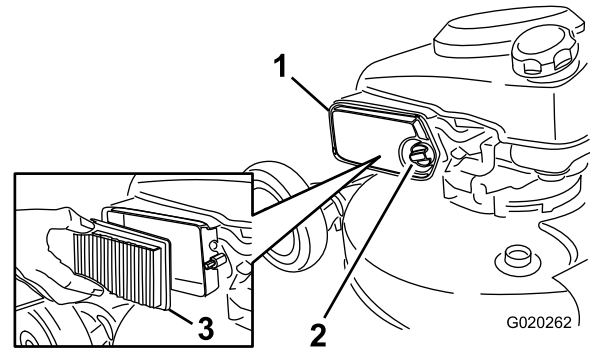

Figure 36
1. Unscrew the knob and open the cover (Figure 36).
2. Replace the air cleaner element (Figure 36).